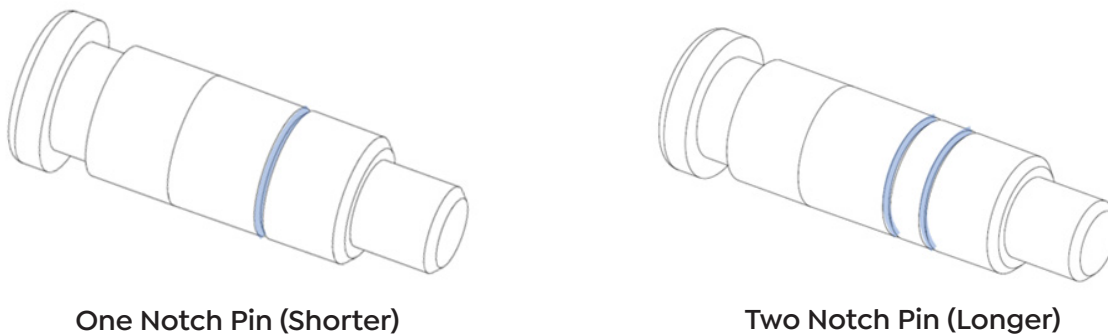

Figure 56: Differences between both RISCpro metal pins.
4. Insert the RISCpro backstrap's metal pins to secure the backstrap and trigger housing onto the frame. Insert the one-notch pin on the left side hole and the two-notch pin on the right side hole. (Figure 56). You can find the Metal Pins in the Assembly Tool.